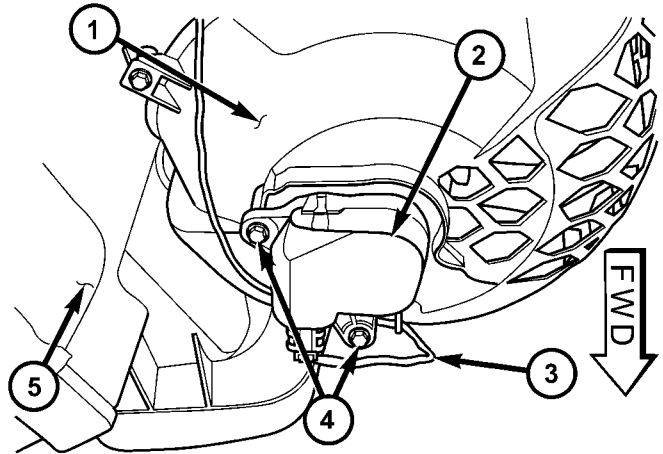

Fig. 26 Recirculation Door Actuator
(1) Disconnect and isolate the negative battery cable.
(2) Pull the carpet on the passenger side front floor away from the dash panel far enough to access the recirculation door actuator.
(3) Disconnect the HVAC wire harness connector from the recirculation door actuator (Fig. 26).
(4) Remove the two screws that secure the recirculation door actuator to the air inlet housing and remove the actuator.